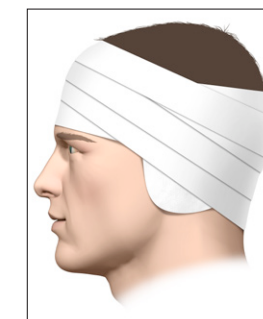

Fig.23: Pressure dressing
2. Apply a pressure dressing for at least 24 hours (Fig.23).